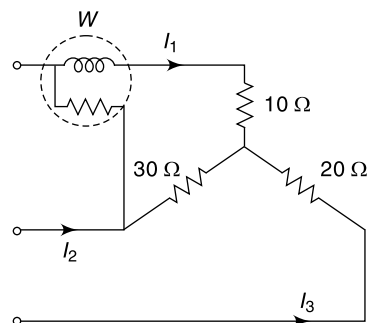

Fig. 4.29
8. In the network shown in Fig. 4.29 three resistors are connected in star to a three-phase supply of 400 V. The wattmeter W is connected as shown. Calculate the currents in the three lines and the readings of the wattmeter.